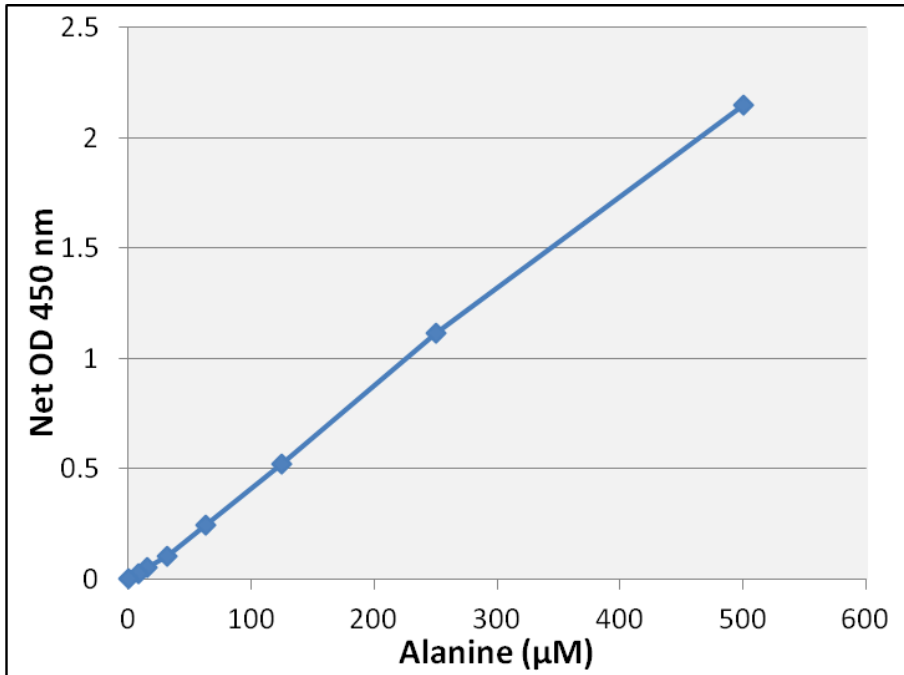

Figure 2. Alanine Standard Curve.
3. Graph the standard curve (see Figure 2).